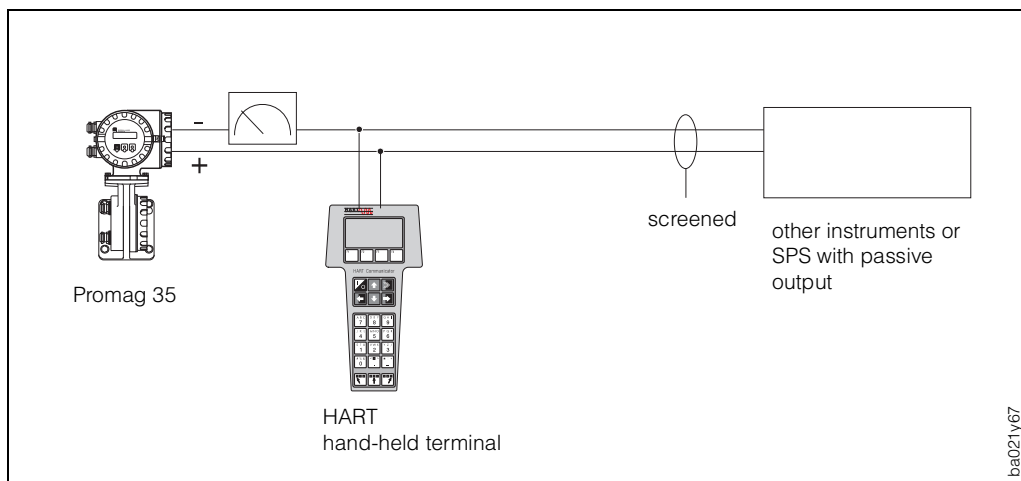

Fig. 40
- Connection via the analogue 4...20 mA cable of current output (see Fig. 40).